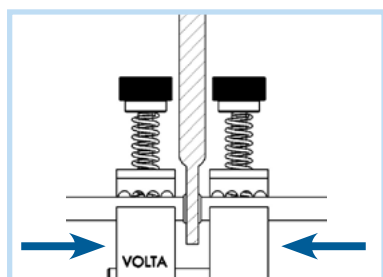

Fig. 10
6. Place the welder's tip between the belt edges and close the pliers, pressing lightly, until belt edges melt into a $0.5 \div 1.0$ mm crown (Fig. 10).